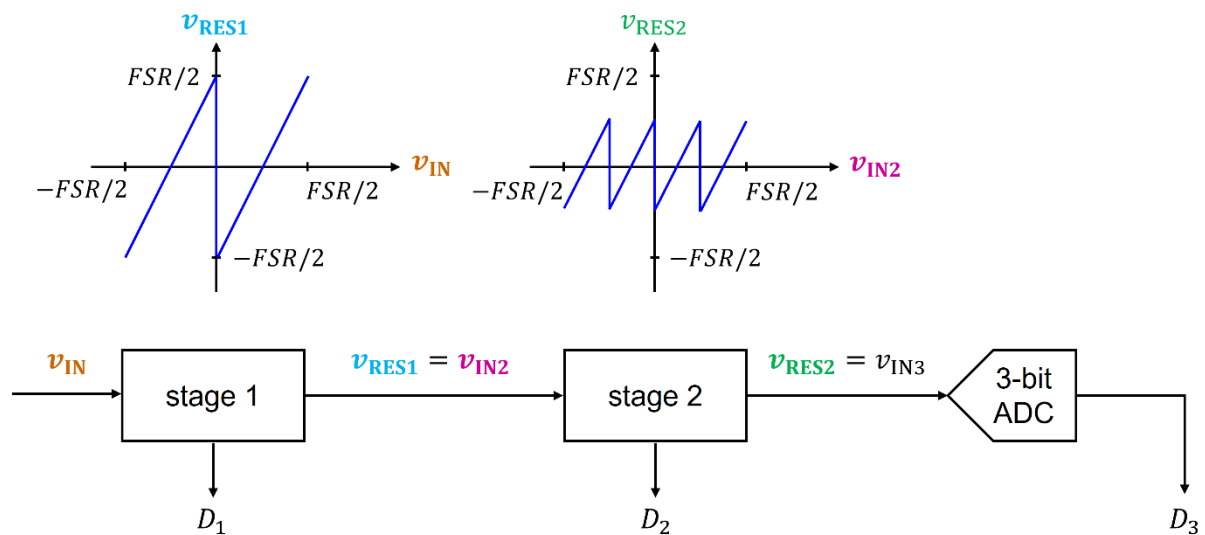

Figure 1: Pipeline ADC.
The block diagram of a 3-stage pipeline ADC is shown in Figure 1.
- h. Consider Figure 1 and derive the transfer characteristic of the ADCs used in *stage 1* and *stage 2*, i.e., D_1 vs. v_{IN} and D_2 vs. v_{IN2} .